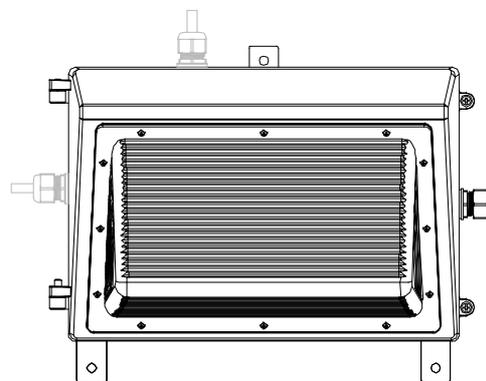

Figure 2
1.As Figure 2 shows,confirm wiring direction and adjust position of fastening feet